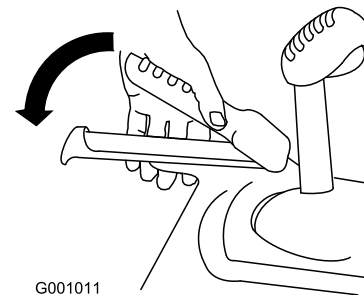

Figure 27
1. To engage the traction drive, squeeze the left (traction) lever to the handgrip (Figure 27).